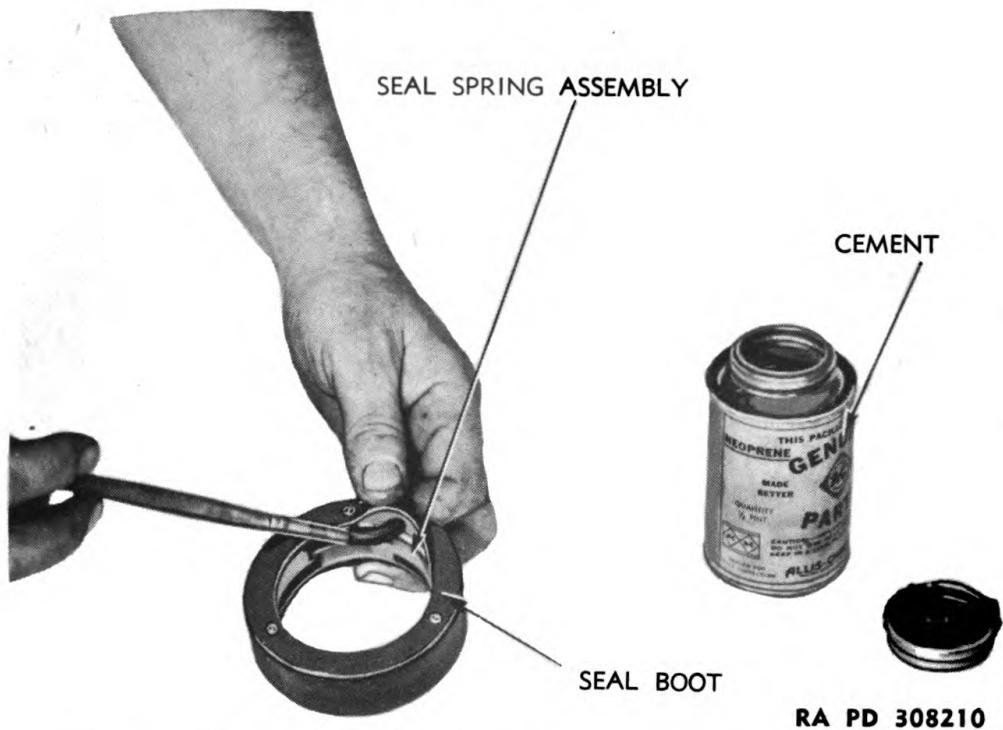

Figure 108 – Cementing Seal Boot to Spring Assembly
d. Assemble Oil Seals and Guide Bushings. Install rubber seal boot on seal spring assembly and, using nonvulcanizing rubber cement, cement inner sides of boot to sides of spring assembly (fig. 108). Coat inner face of guide bushing with cement (fig. 109), then install boot and spring assembly in bushing with pins in spring assembly engaging holes in bushing. Lay bushing on bench and coat upper side of seal boot with cement. Set seal ring on dowels projecting from upper side of spring assembly. Place clean cloth over polished surface of seal ring, then place weight on assembly to hold parts tightly together, and allow at least one hour for cement to dry. Repeat these operations on second assembly.